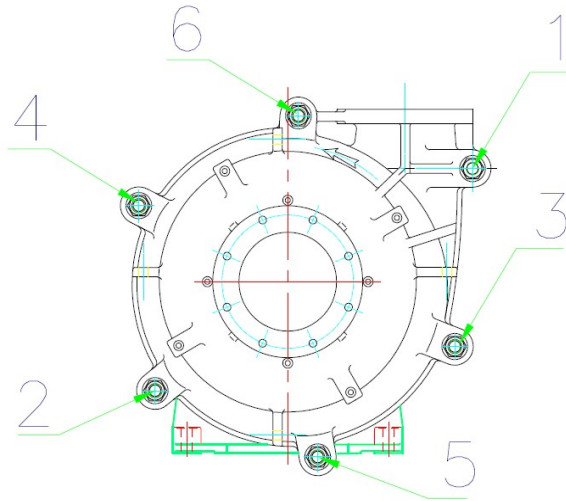

Figure 11 Tightening Sequence 8x6 and Larger
5.3.4 COVER PLATE BOLT TIGHTENING SEQUENCE – Ref Fig 11
Make corresponding permanent marks on the nut and the protruding thread of the bolt, from which subsequent rotation of the nut or bolt can be measured. Then using the appropriate turns in Figure 11, turn the bolts/nuts, according to the tightening sequence shown in Figure 11, if appropriate, to achieve 70% of yield tension in the bolts.